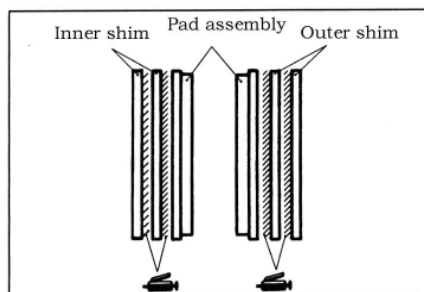

Fig. 16-19
- (5) Measure hub torque with pad removed in order to measure brake drag torque ,after pad installation.
(6) Apply repair kit grease to the attaching faces of pad and inner shim and to the attaching faces of inner and outer shims. Apply so as not to spread it out from the edge of shim (see Fig. 16-19)。